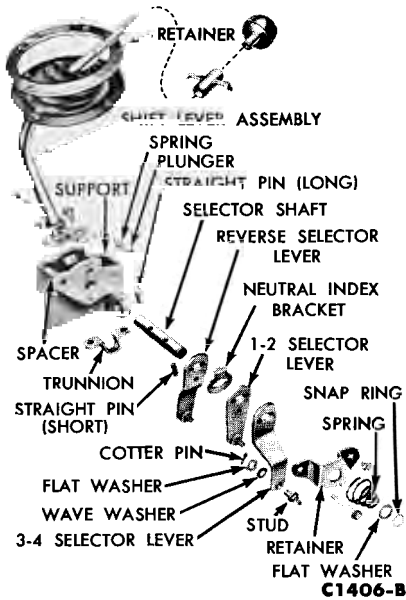

FIG. 12—Gear Shift Lever Disassembled—Typical
end of the selector shaft with pointed snap ring pliers (Fig. 12).
10. Install the levers and the neutral index bracket on the shaft as shown in Fig. 12.